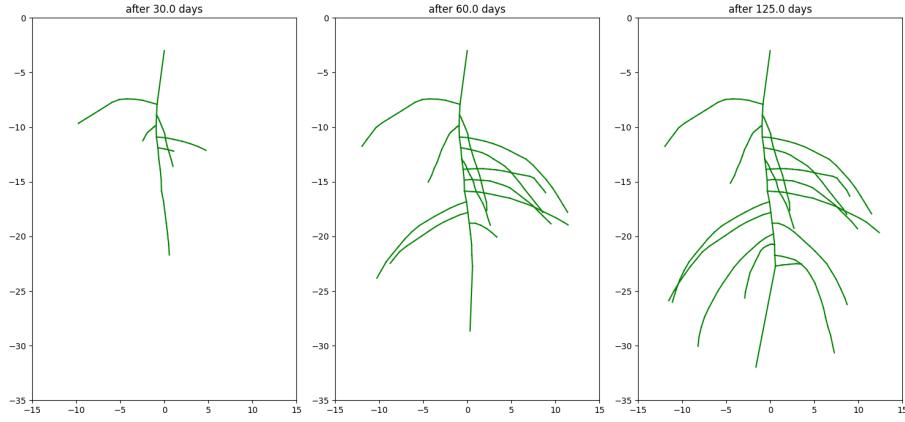

Figure 4: Root development
- 54-70 Within the simulation loop we create Figure 4. L58-61 defines the limits and titles. In L63 we retrieve the roots as polylines which are represented by a list of nodes. In L64-67 we plot the *x* and *z* coordinates for each segment (*n*, *n2*) as green line.
With such simple simulations, we can quickly check if the model does, what we expect. For example the maximal number of laterals of above parameters is  $16 = \text{round}(lmax - la - lb)/l_n + 1$ . We can calculate the time when the final lateral emerges as  $-(lmax/r) * \ln(1 - (lmax - l_n/2)/lmax) = 122.8$  days. At simulation time 125 the last lateral root that has emerged is 2.2 days old, and therefore approximately 4.4 cm long (initial growth rate  $r_1 = 2$ ), which agrees with Figure 4.